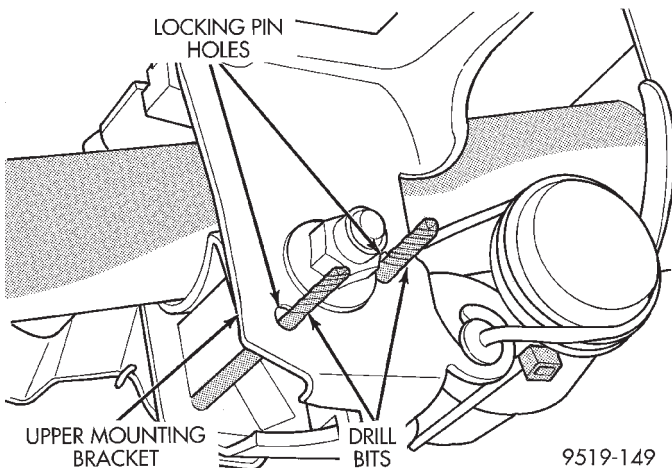

Fig. 21 Locking Pins Installed In Steering Column Bracket
(27) Place steering column so it is positioned in the middle of its tilt range. Place the steering column assembly tilt lever in its fully locked position. Then insert a 5/32 inch drill bit in each locking pin hole on the upper steering column mounting bracket (Fig. 21).
(3) Remove the 2 drill bits (Fig. 21) from the steering column upper mounting bracket. **If a new steering column is being installed in the vehicle, remove the shipping (grenade) pin from steering column upper mounting bracket.**